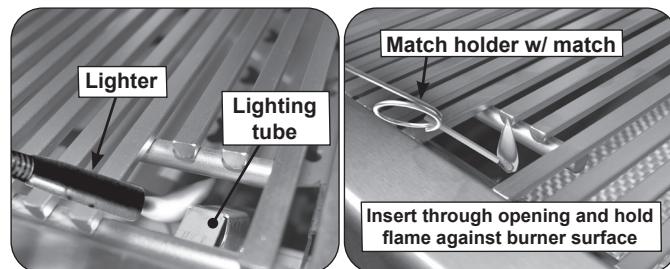

Fig. 33-2 Manual lighting via lighting tube
2. Insert either a burning long-barrel butane lighter, a burning long-stem match, or a burning match held by a wire extension holder through the cooking grids to the burner (Fig. 33-2). For backburners, hold the flame against the perforated material of the backburner.